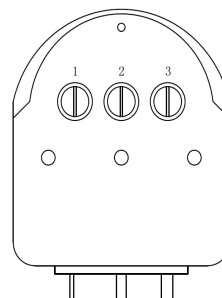

FIG. 3
1. After installation, please turn anti-clockwise the time adjuster (No:2 see Fig 3) to minimum and turn clockwise the day/night adjuster (No:3 see Fig 3) to day setting before you switch on the mains supply.